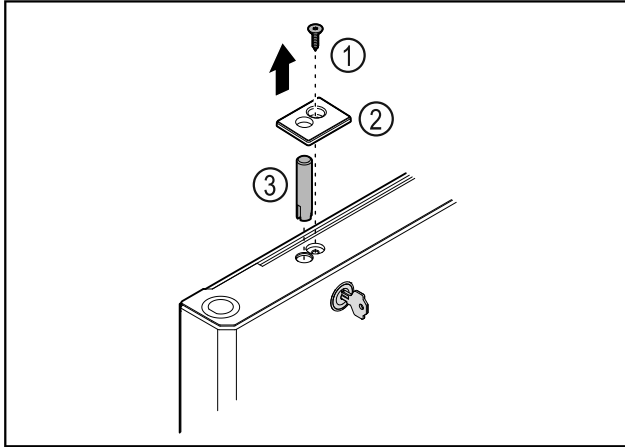

Fig. 37
- ▶ Remove the screw *Fig. 37 (1)*.
- ▶ Unlatch the cover *Fig. 37 (2)* with a small screwdriver and remove it.
- ▶ Pull out the lock bolt *Fig. 37 (3)*.